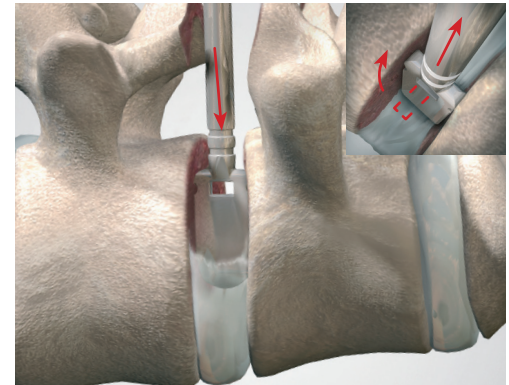

Figure 4
- ▲ Insert a small paddle distractor horizontally into the intervertebral space and rotate the instrument vertically to distract the space (Fig. 4). Sequentially insert the paddle distractors increasing in height until the desired height is obtained.